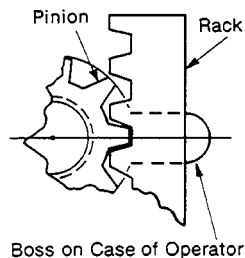

Figure-9
- With actuator in full clockwise (closed) position, rotate motor pinion until a pinion tooth lines up with center lines of boss (Figure-9) on actuator case; slide washer and pinion on shaft. Mark this tooth for future reference.
- Align actuator so that marked tooth of pinion engages with third tooth space from top of rack. Mount actuator to linkage with the actuator mounting screws (4). Apply "locktite", Grade CV, to screw threads.